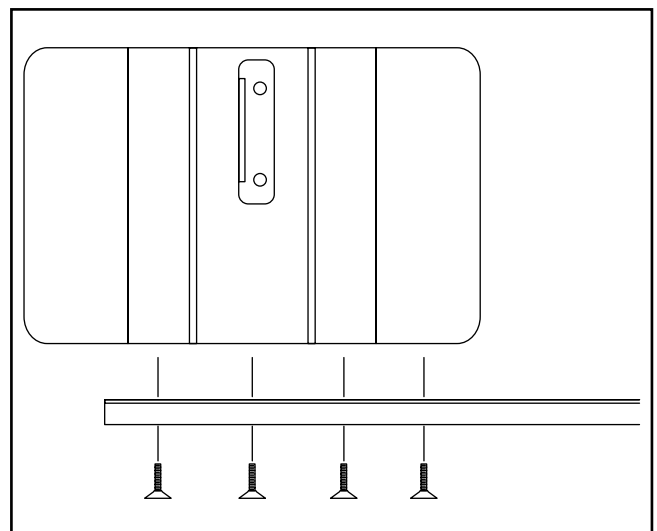

Figure 9. Front rail attachment procedure.
3. Attach the front rail to the table top using the hex socket flathead screws supplied. See **Figure 9**. Place a combination square set at $\frac{25}{32}$ ", at the edge of the table, and adjust the rail so it is consistently $\frac{25}{32}$ " below the top of the table.